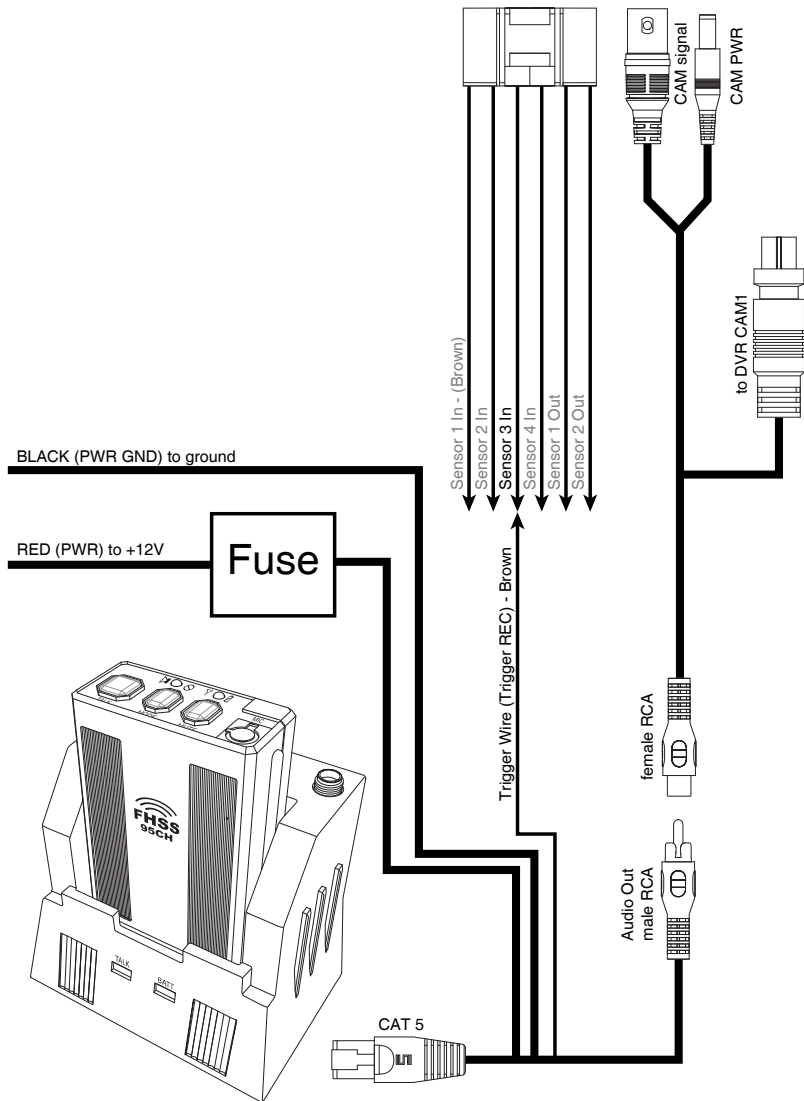

FIG. 3
- 1 Plug the male RCA plug into the female red RCA plug coming from the Camera 1 Wire Harness. (FIG 3).